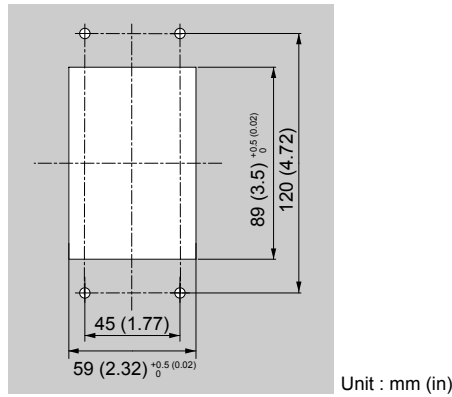

Figure 2.13 Panel Cut-Out Dimensions (Internal/Flush-Mount Installation)
1. Cut an opening in the enclosure panel for the HOA keypad as shown in **Figure 2.13**.